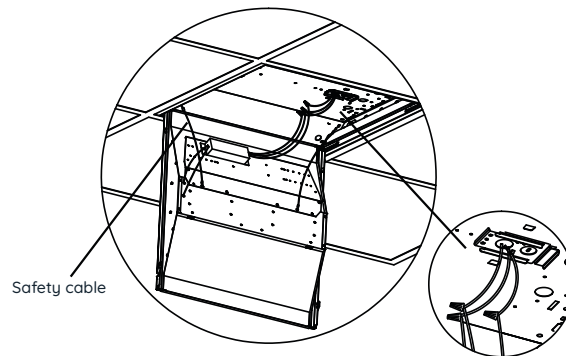

Fig. 5
- 6 Pass grommet. Refer to the wiring diagram to connect the input power. If the lamp wire is inside the driver, Hook the safety cables into the holes positioned the end brackets. (Fig.5)